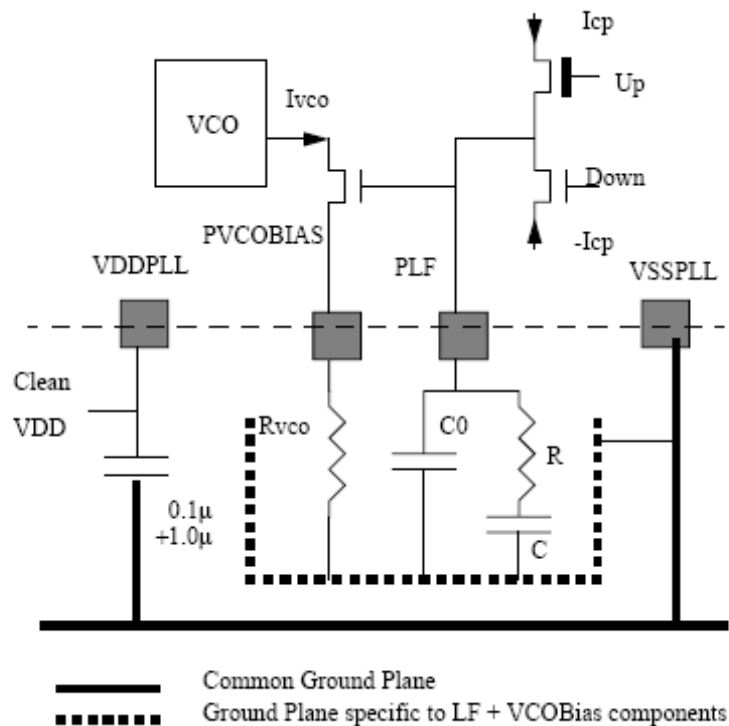

Figure 12-1 PLL Layout Recommendations
See Figure 12-1 the internal wiring of PLL block to better understand the external board recommended layout. The Voltage drop between PLL loop filter (LF) and the PVCOBias pads will be converted into a current (I_{vco}) which will determine the VCO frequency. It is critical to avoid any disturbance of that voltage drop at this will translate directly to jitter in the VCO frequency.